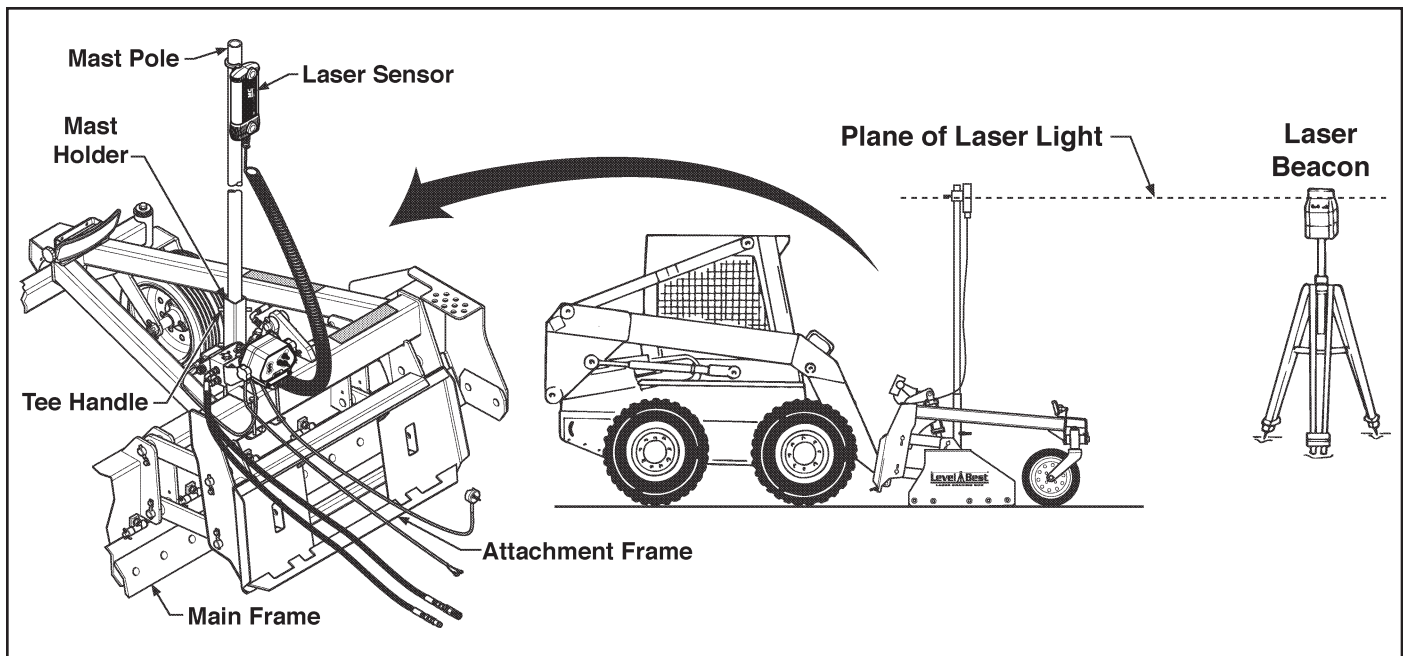

Figure 20. Components of the Automatic Control System on a Skid Steer
6. Insert the Mast Pole in the holder until it rests at the bottom of the tube. Tighten the tee handle to secure the Mast. Clamp the Laser Sensor near the top of the Mast so it is higher than any local obstruction including the skid steer cab or fall protection devices. (Refer to Figure 20).